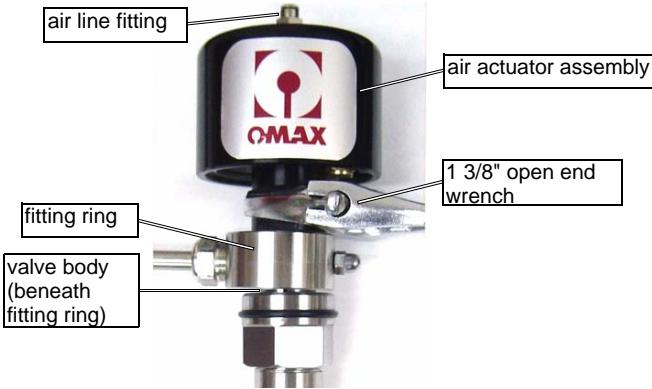

Figure 6-90: Removing the Air Actuator Assembly
2. Remove the air line from the **air line fitting** on top of the **air actuator assembly** (Figure 6-90) and move it out of the way.
- Reinstall the **air actuator assembly**. Use the 1 1/8" crows foot to torque it at 250 in-lbs (28.2 N·m). Refer to Figure 6-90.